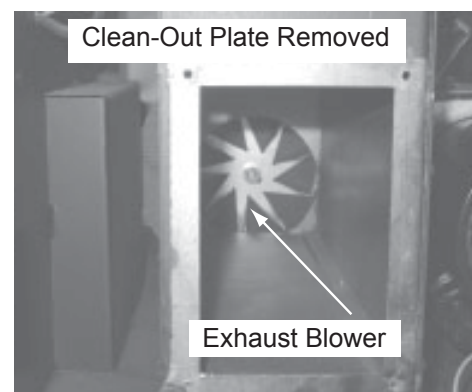

Figure 34.4
3. Use a small vacuum hose attachment to clean area. **Figure 34.4.**